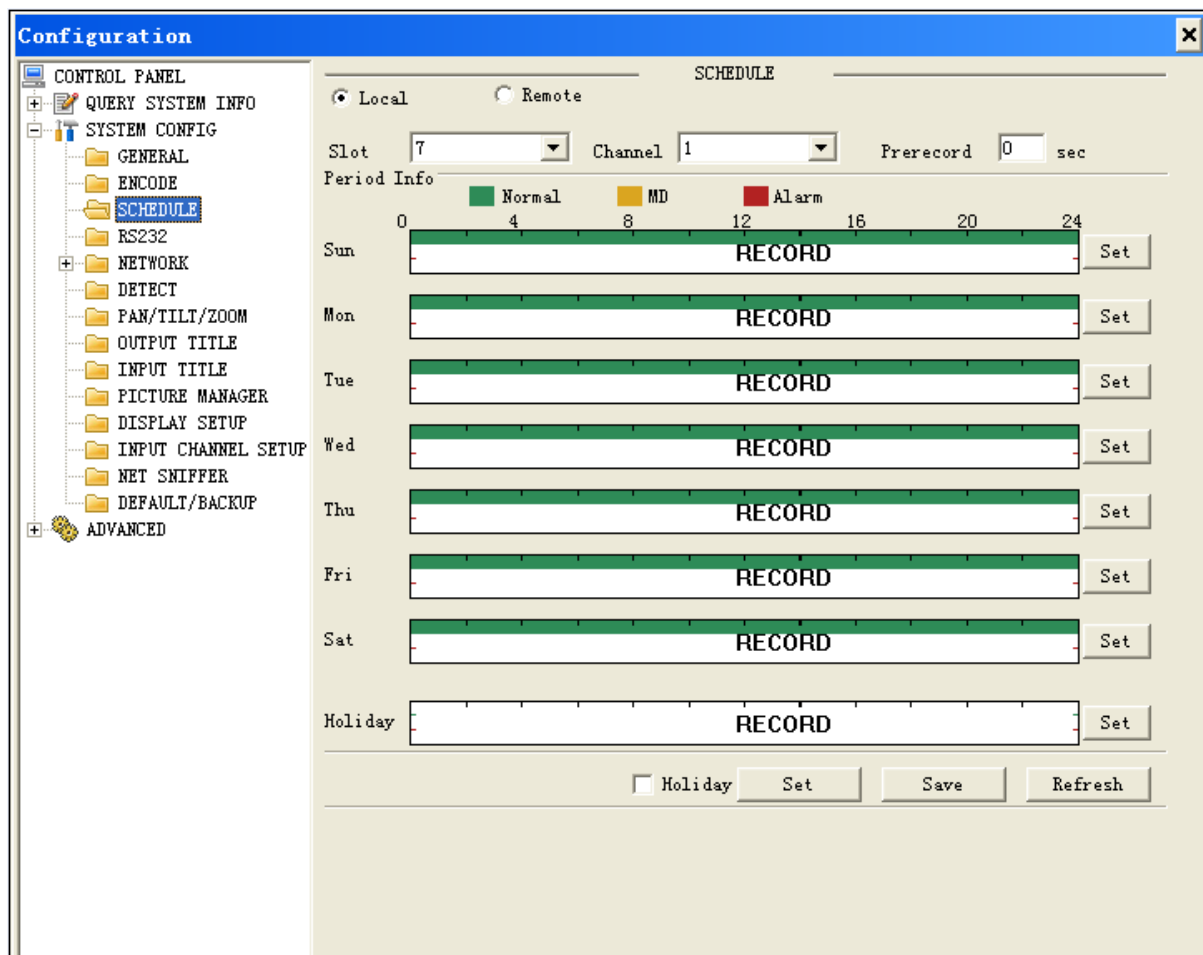

Figure 4- 26
1. Click set button in interface as in Figure 4- 26, and a new interface will appear as in Figure 4- 27.